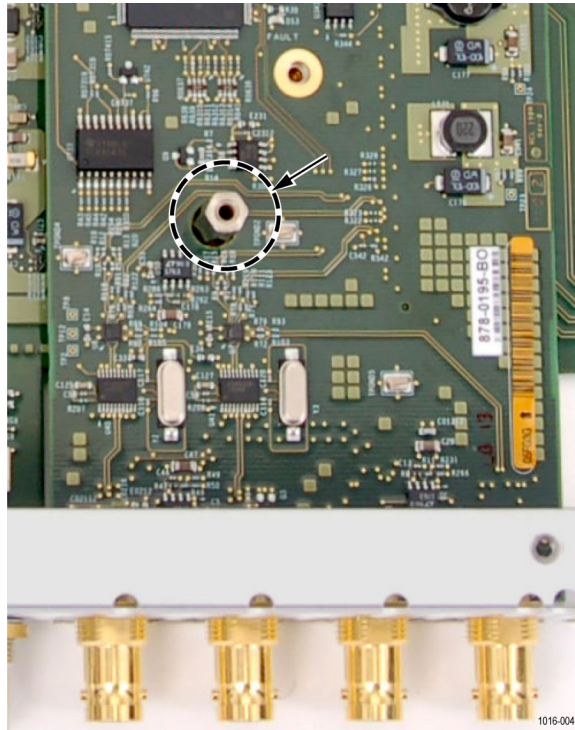

Figure 5: Audio post through video board
4. If an audio board was present, there will be a post protruding through the video board. Temporarily remove the post and save it for reinstallation. (See Figure 5.)
- f.** Reinstall the post for the audio board if one was removed. (See Figure 5.)
- g. Reinstall the post for the audio board if one was removed. (See Figure 5.)